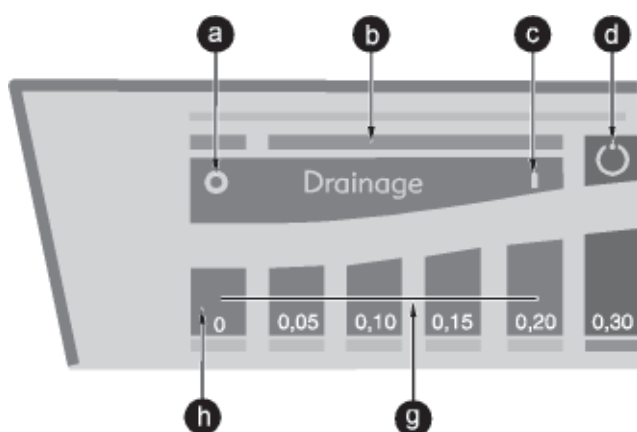

Fig. 20. Display and control panel
- Press the "0" key **h** (Fig. 20) to enable selection of the fine-control suction mode ("drainage" displays).